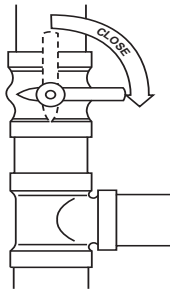

Fig. 16 – Close the External Manual Valve
- Close the external manual gas valve (see Fig. 16).